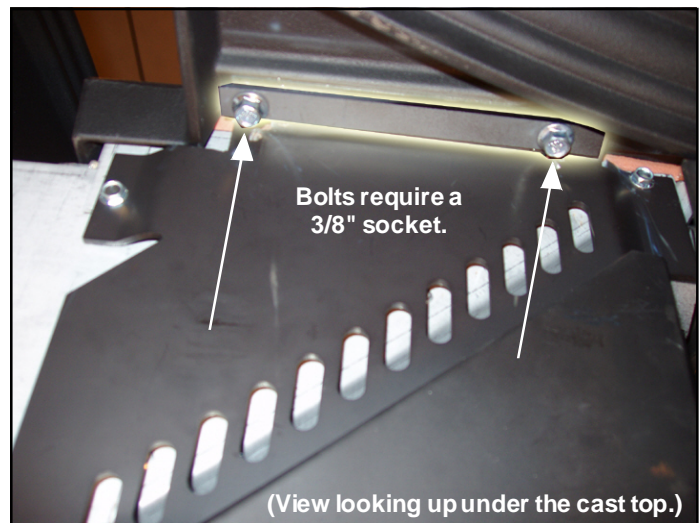

Fig. 12
On each side of the stove body, underneath the cast top, are (2) 1/4" flange head bolts. See Fig. 12. These bolts pull the cast top and lid assembly down onto the hopper gasket to seal the hopper. They also allow for a small amount of front to back adjustment for alignment of the top into the wing pockets.